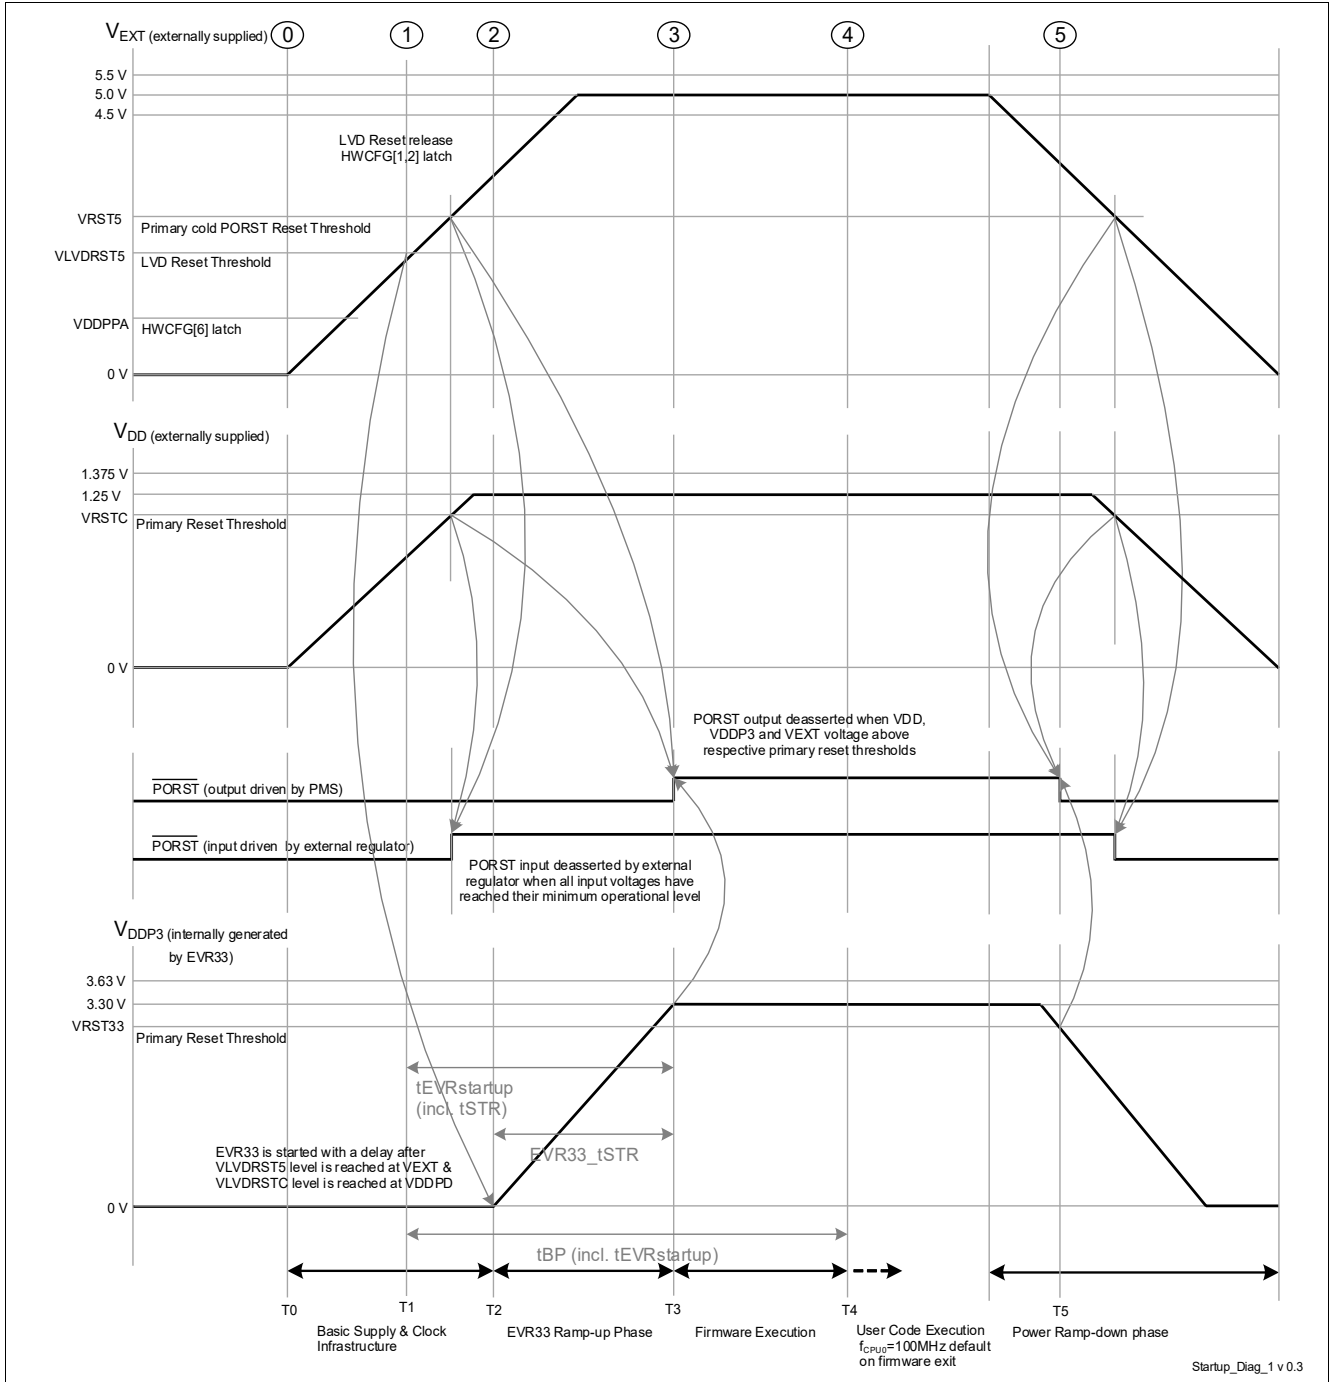

Figure 3-5 External Supply mode (d) - V_{EXT} and V_{DD} externally supplied
- The power sequence as shown in Figure 3-5 is enumerated below